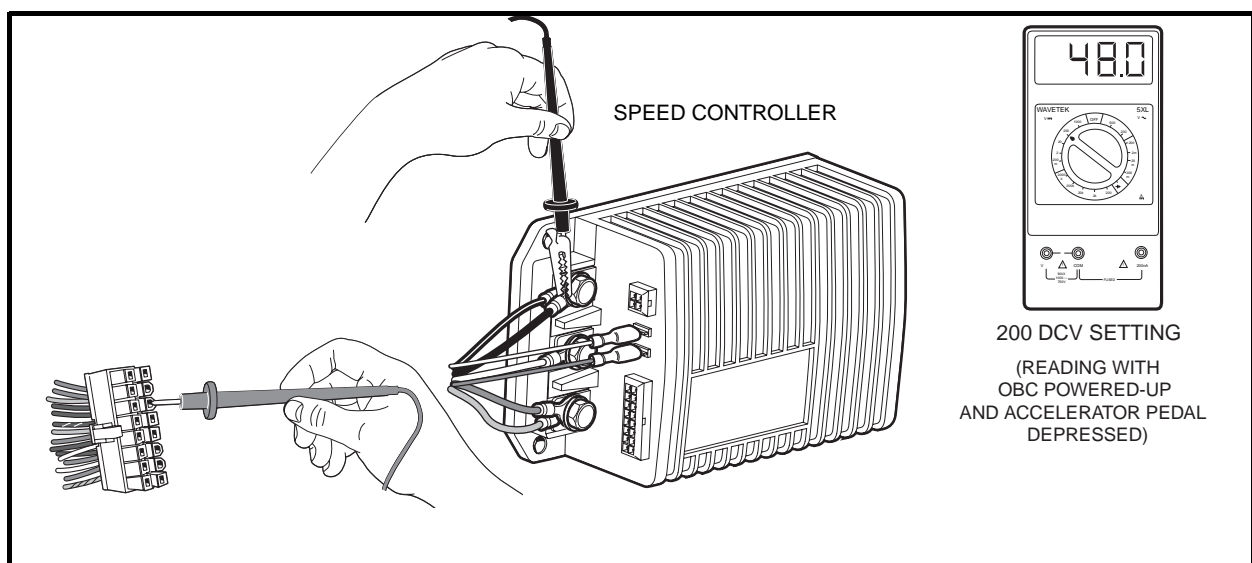

Figure 11-15 Pin 6 Test
4. Using a multimeter set for 200 volts DC, insert the red (+) probe of the multimeter into pin 6 (green wire) of the 16-pin connector. **See following CAUTION.** Using an alligator clip, connect the black (-) probe to the B- terminal of the speed controller (**Figure 11-15, Page 11-28**).